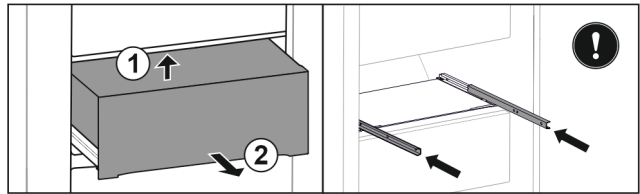

Fig. 114
- ▶ Lift drawer from below. Fig. 114 (1)
- ▶ Remove drawer to the front. Fig. 114 (2)